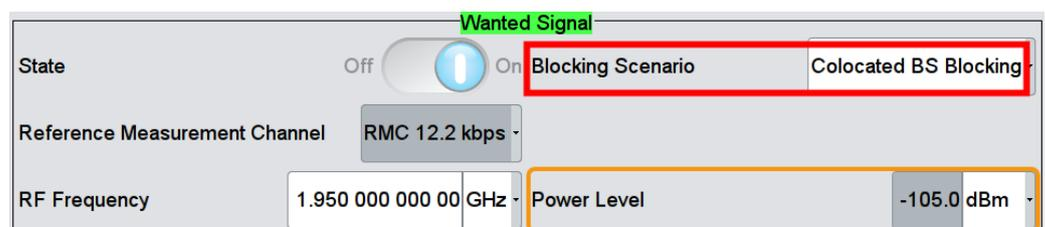

Fig. 3-39: Set blocking scenario as Colocated BS Blocking. Set Frequency
- Select **Co-located BS blocking** as **Blocking Scenario** in the “Wanted Signal” menu. (Fig. 3-39)
- Set **RF frequency** of the wanted signal. (Fig. 3-39)
- Power level** for the wanted signal is set automatically based on the power class and blocking scenario. (Fig. 3-39)